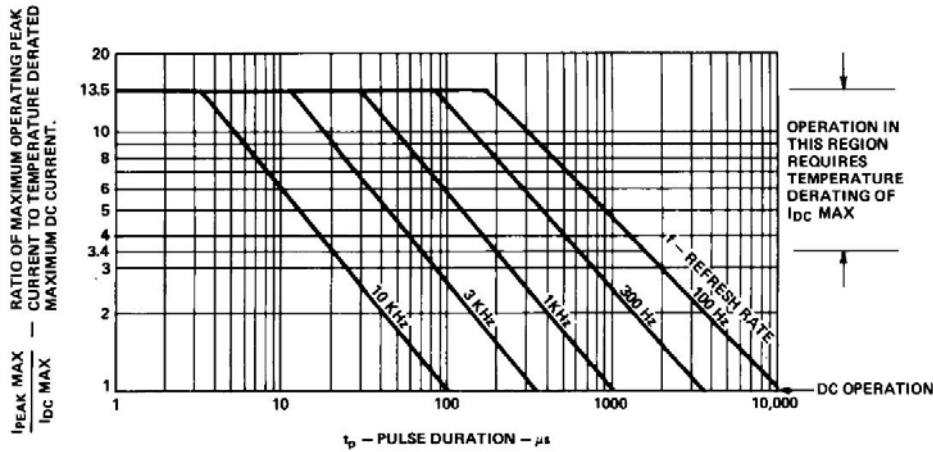
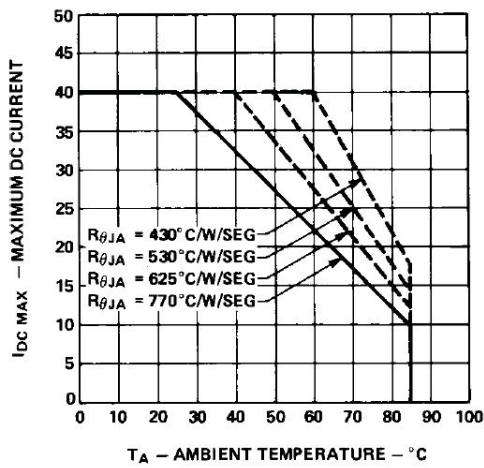

Figure 1. Maximum Allowed Peak Current vs. Pulse Duration.
Figure 2. Maximum Allowable DC Current per Segment vs. Ambient Temperature.
- See Figure 1 to establish pulsed operating conditions
- Derate maximum DC current above $T_A = 25^\circ\text{C}$ at 0.50 mA/ $^\circ\text{C}$ per segment, see Figure 2.
Temperature derated strobed operating conditions are obtained from Figures 1 and 2. Figure 1 relates pulse duration (t_p), refresh rate (f), and the ratio of maximum peak current to maximum dc current ($I_{PEAK \text{ MAX}}/I_{DC \text{ MAX}}$). Figure 2 presents the maximum allowed dc current vs. ambient temperature. Figure 1 is based on the principle that the peak junction temperature for pulsed operation at a specified peak current, pulse duration and refresh rate should be the same as the junction temperature at maximum DC operation. Refresh rates of 1 kHz or faster minimize the pulsed junction heating effect of the device resulting in the maximum possible time average luminous intensity.
Worst case thermal resistance pin-to-ambient is 400°C/W/Seg when these devices are soldered into minimum trace width PC boards. When installed in a PC board that provides $R\theta_{PIN-A}$ less than 400°C/W/Seg these displays may be operated at higher average currents as shown in Figure 2.